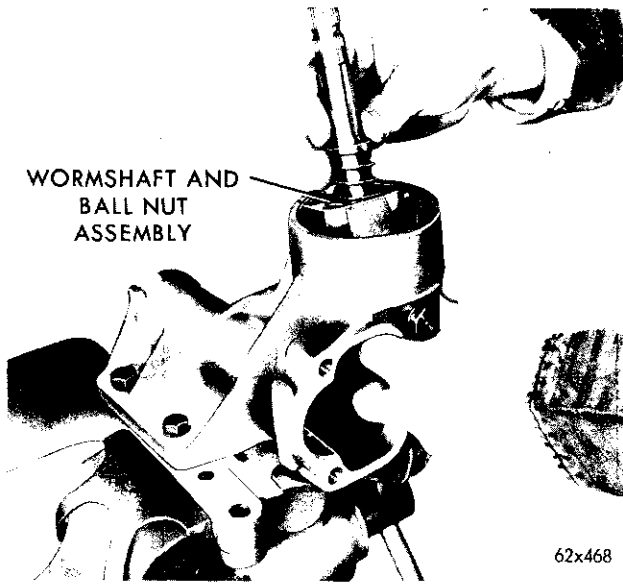
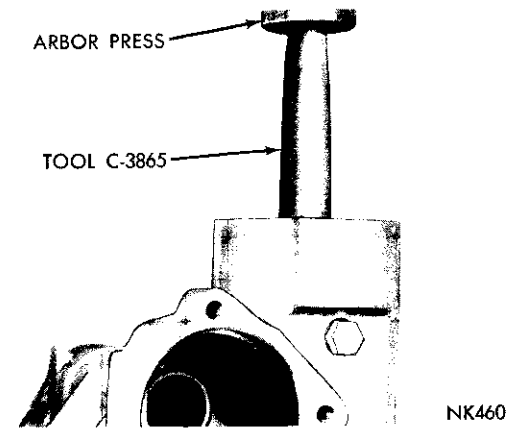

Fig. 6—Removing Worm Shaft and Ball Nut Assembly
Fig. 10—Installing Wormshaft Lower Bearing Cup
(9) Carefully remove worm and ball nut assembly (Fig. 6).
(21) Install the wormshaft bearing cups, position the bearing cup and spacer into the adjuster nut, and press them in place with Tool C-3865 (Figs. 10 and 11).
(22) Install the wormshaft oil seal by positioning the seal in the wormshaft adjuster with the lip of seal up. Drive the seal into place with a suitable sleeve so it is slightly below the end of the bore in the adjuster.
(23) Apply a coating of steering gear lubricant to all moving parts during assembly, also place lubricant on and around oil seal lips.
(24) Clamp the holding fixture and housing in a vise with the bearing adjuster opening upward.
(25) Place a thrust bearing in the lower cup in the housing.
(26) Hold the ball nut from turning (Fig. 6), and insert the wormshaft and ball nut assembly into the housing with the end of the worm resting in the thrust bearing.